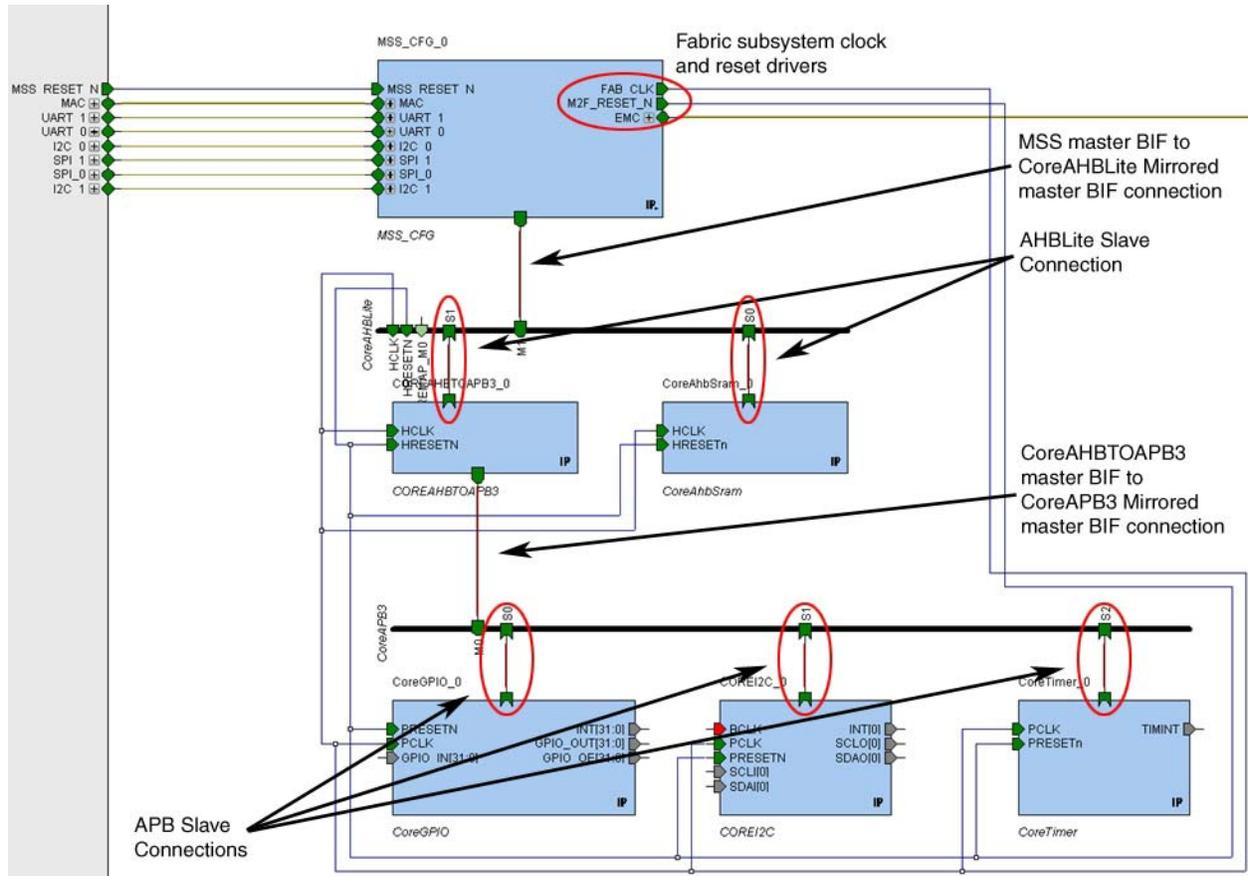
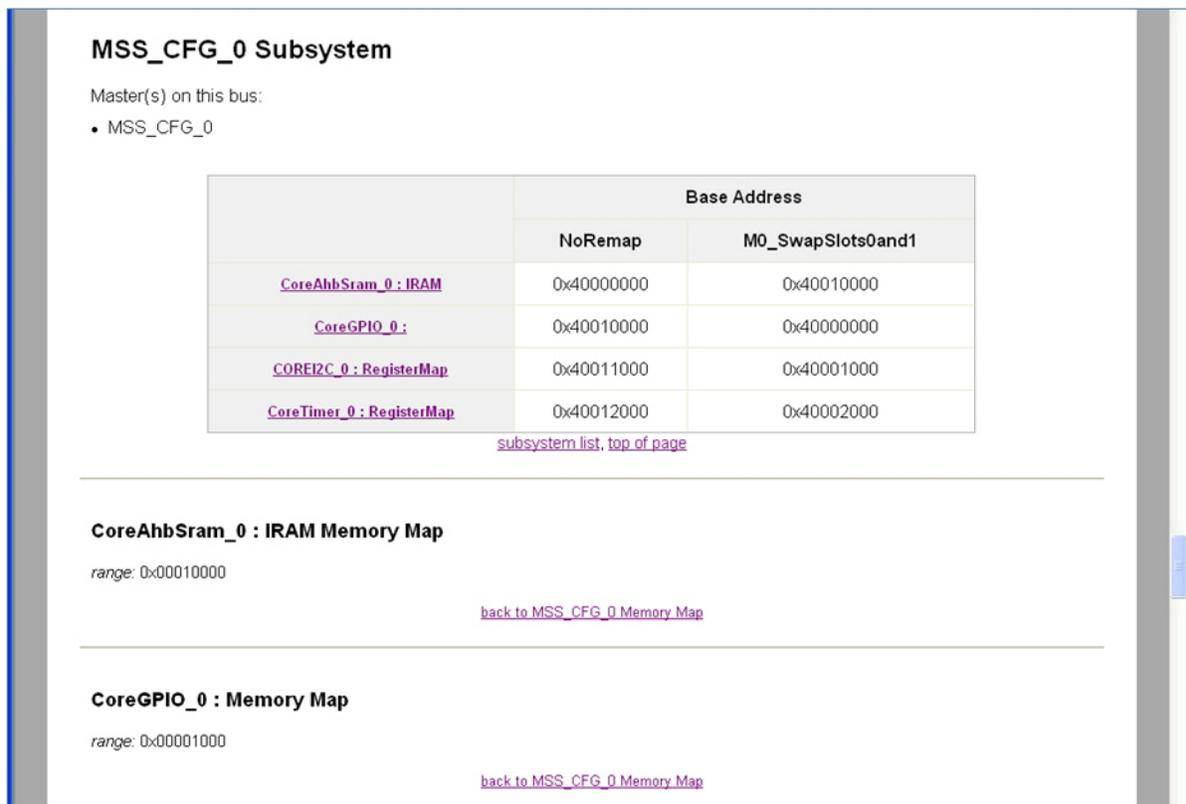

Figure 1-8 · Manual Connections in Subsystem
Figure 2-1 · Memory Map
- Connect the CoreAHBLite mirrored-master BIF M0 or M1 to the MSS Master BIF (as shown in Figure 1-8). Use M1 if you plan to create a multi-master subsystem where you have a master in the fabric that requires the remap feature and thus needs to be connected to M0.
You can see the system memory map by using the SmartDesign Memory Map / Data Sheet feature (from the SmartDesign menu in the Libero IDE Project Manager). For example, Figure 2-1 is the memory map generated for the subsystem shown in Figure 1-8 on page 11.